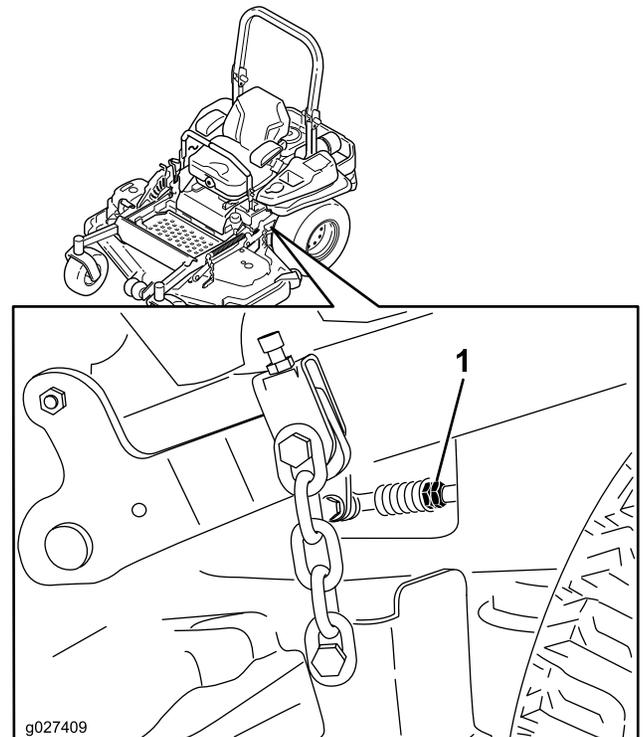

Figure 92
10. Adjust the pump-control-rod lengths by rotating the double nuts on the rod in the appropriate direction until the wheels slightly creep in reverse (Figure 92).